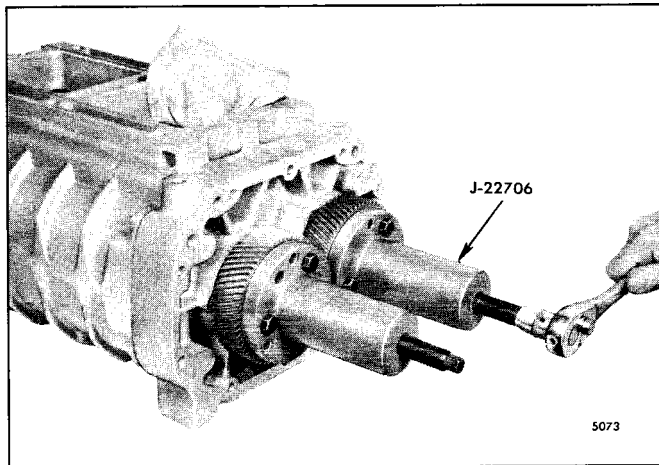
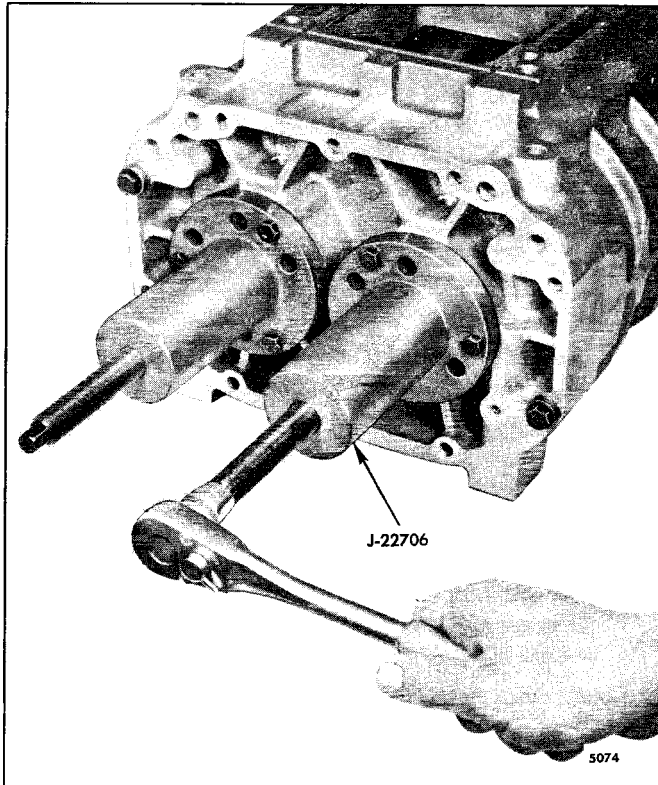

Fig. 6 – Removing Blower Gears using Tool J 22706-16
Fig. 7 - Removing Blower Rotors from Housing and Rear End Plate using Tool J 22706-16
5. Remove the timing gears with pullers J 22706-16 (Fig. 6). Both gears must be pulled at the same time as follows:
- a. Back out the center screws of both pullers and place the flanges against the gear faces, aligning the flange holes with the tapped holes in the gears. Secure the pullers to the gears with six (6) 7/16"-20 x 1—1/2" bolts (three on each gear).
- b. With a clean cloth placed between the rotors to prevent rotation, turn the two puller screws uniformly clockwise and withdraw the gears from the rotor shafts (Fig. 6).
7. Remove the three (3) self-locking bolts securing each rotor shaft bearing retainer to the rear blower end plate. Remove the retainers.
- a. Install two (2) temporary hold down bolts through the rear blower end plate (Fig. 7).
- c. Align the holes of the puller flanges with the tapped holes in the end plate. Secure the pullers to the end plate with six (6) 5/16"–18 x 1-1/4" bolts.
- d. Turn the puller screws in a clockwise direction to push the blower rotors out of the rear end plate (Fig. 7). Push the rotors out together.